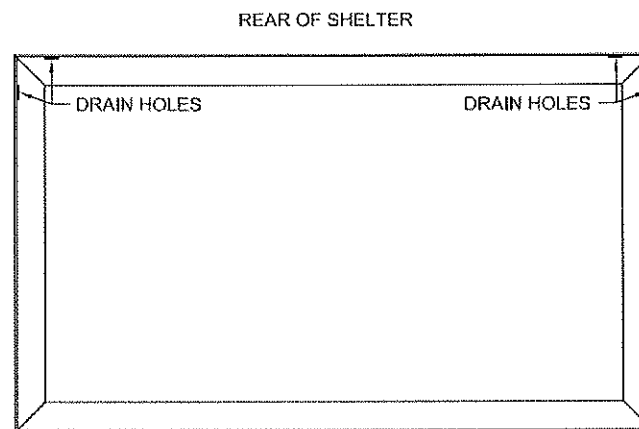

FIGURE 7
- 6) MAKE SURE TOP OF HEADER BEAMS ARE CLEAN AND CLEAR OF DEBRIS. WITH DRAIN HOLES TO REAR OF SHELTER SET THE ROOF MODULE ONTO SHELTER WALL SECTIONS (FIGURE 7).